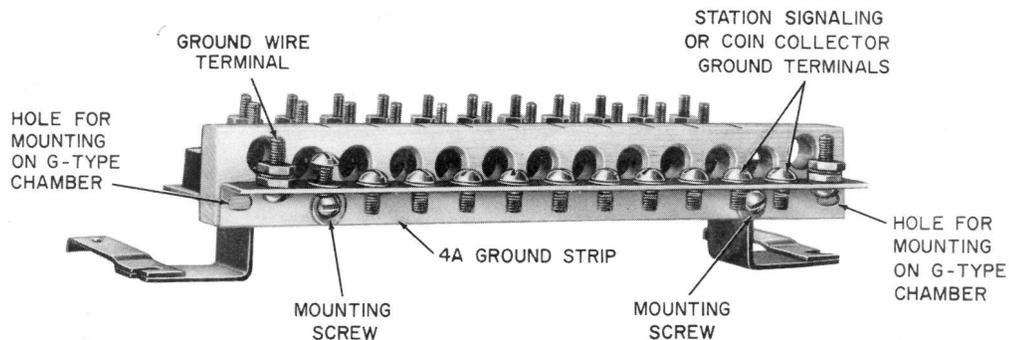

Fig. 71—Typical Installation of 4A Ground Strip
7.05 The 4-type ground strips are angular-metal brackets equipped with terminal screws and two binding posts. They are used with 102-type adapters when installed with connecting blocks (Table G). See Fig. 71 and 72 for typical 4-type ground-strip installations.